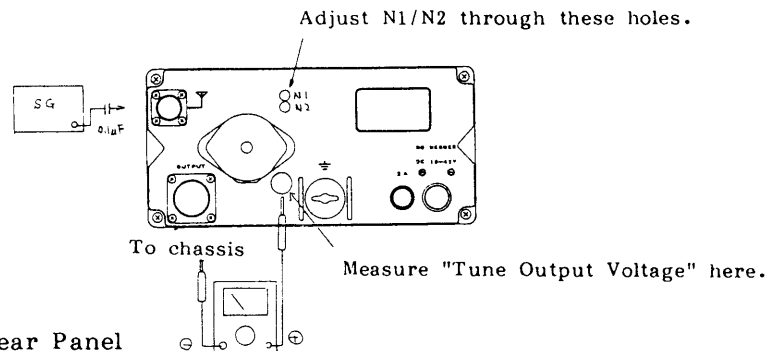

Fig.1 LC-90MK-II Rear Panel
8. Connect the SSG to the antenna terminal through the capacitor (0.1uF) as illustrated in Fig.1.